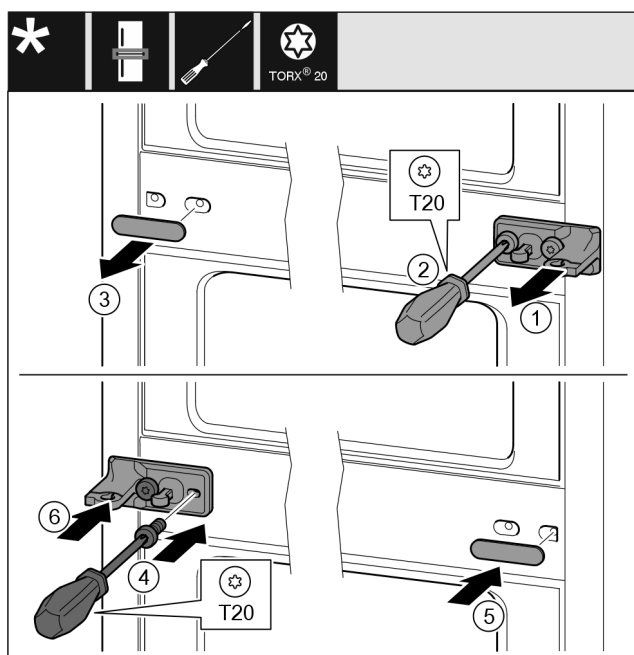

Fig. 41
- ▶ Remove the washer Fig. 41 (1).
- ▶ Unscrew screws Fig. 41 (2) with screwdriver.
- ▶ Remove the cover Fig. 41 (3) carefully.
- ▶ Turn the bearing block with film Fig. 41 (4) by 180° and screw it tight on the other side.
- ▶ Turn the cover Fig. 41 (5) by 180° and attach to the other side.
- ▶ Slide on the washer Fig. 41 (6) from the front.